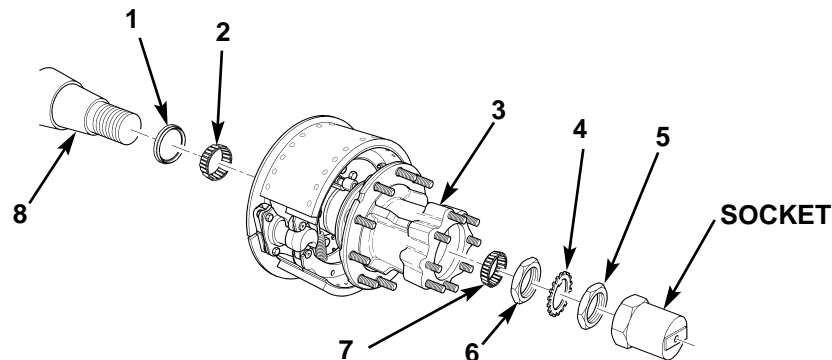

Figure 9. Removing Hub and Wheel Bearings.
5. Bend tabs on lockwasher (figure 9, item 4) away from outer nut (figure 9, item 5). Using 4-1/8 in. (105 mm) socket, remove outer nut (figure 9, item 5), lockwasher (figure 9, item 4), and inner nut (figure 9, item 6) from axle housing spindle (figure 9, item 8). If tabs are broken, replace lockwasher (figure 9, item 4).
6. Remove outer bearing cone (figure 9, item 7) and rear wheel hub (figure 9, item 3) from axle housing spindle (figure 9, item 8).
7. Using suitable drift and hammer, remove seal (figure 9, item 1) and inner bearing cone (figure 9, item 2) from rear wheel hub (figure 9, item 3). Discard seal (figure 9, item 1) and rear wheel hub (figure 9, item 3).